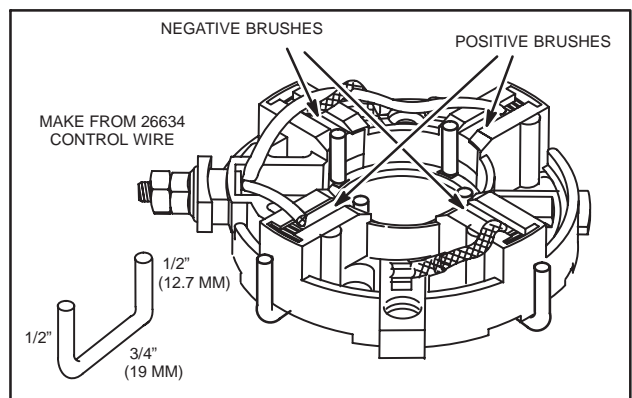

Fig. 15 – Assemble Brushes
1. Assemble brushes in their proper holders. Note: Brush retainers may be made using Part. No. 26634 control wire as shown in Fig. 15.